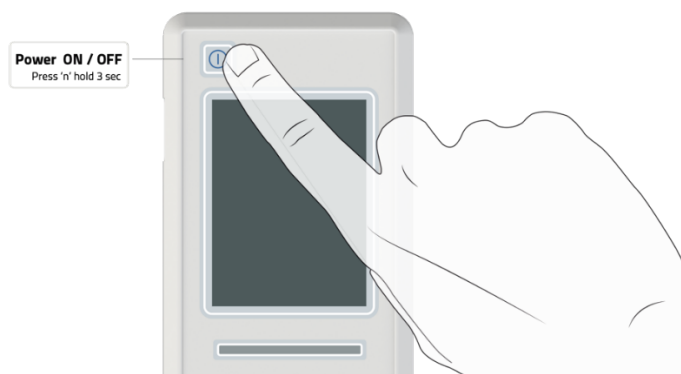

Figure 7: Turn on TrachFlush
**Step 1:** Turn on the TrachFlush device by pressing and holding the On/Off button for 3 seconds as shown on figure 7 below.